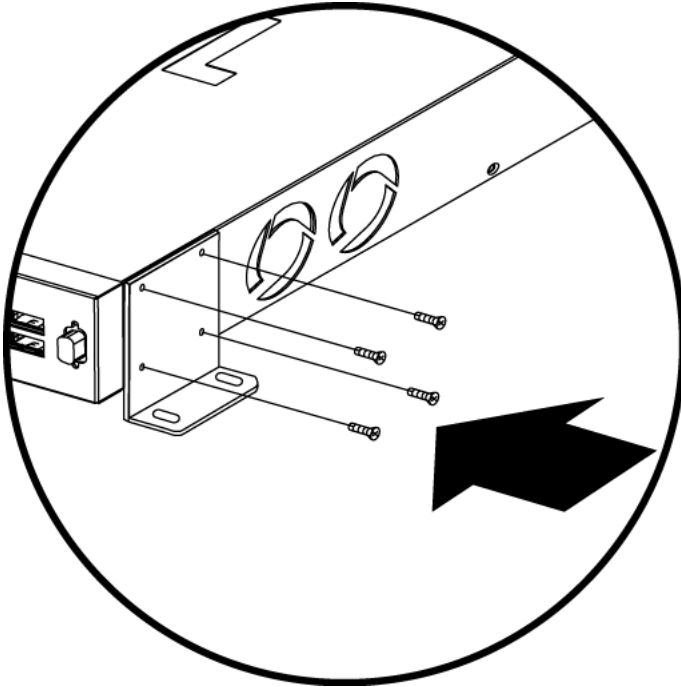

Figure 11: Wall mount bracket detail
1. Attach the brackets to each side of the device as shown in Figure 11: Wall mount bracket detail on page 65.